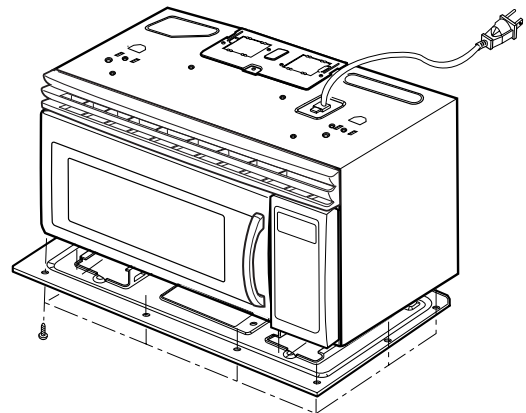
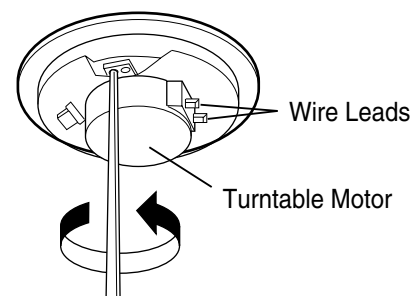

Figure 20
Figure 21
- (3) Remove the base plate by removing 8 screws securing it to the oven cavity. (Figure 20)
- (4) Disconnect the leadwire from the turntable motor terminals.
- (5) Remove 1 screw securing the turntable motor to the oven cavity ASS'Y. (Figure 21)